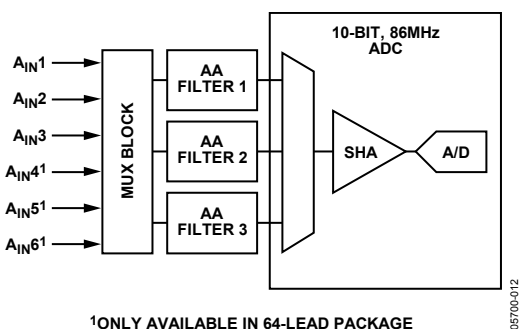
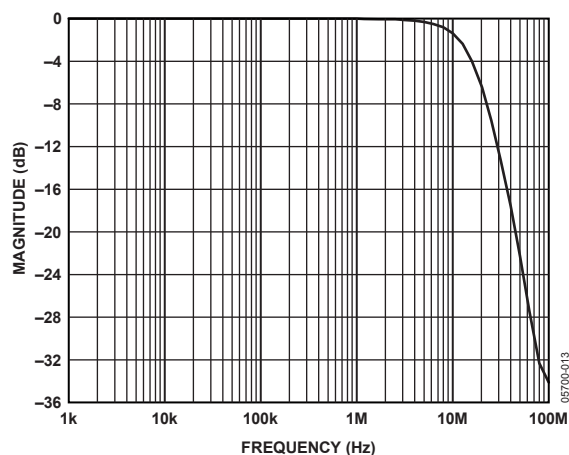
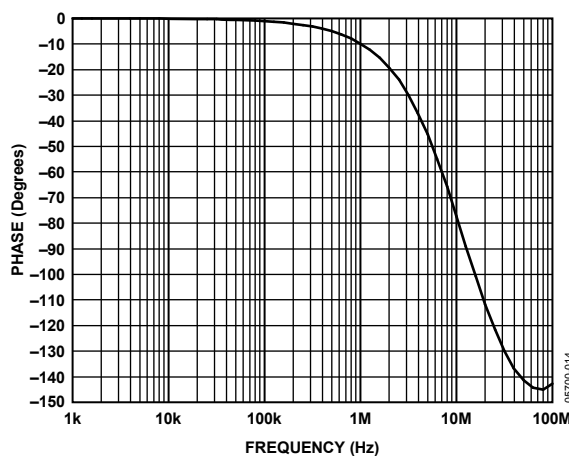

Figure 11. Antialias Filter Configuration
Figure 12. Antialiasing Filter Magnitude Response
Figure 13. Antialiasing Filter Phase Response
The ADV7180 has optional on-chip antialiasing (AA) filters on each of the three channels that are multiplexed to the ADC (see Figure 11). The filters are designed for standard definition video up to 10 MHz bandwidth. Figure 12 and Figure 13 show the filter magnitude and phase characteristics.